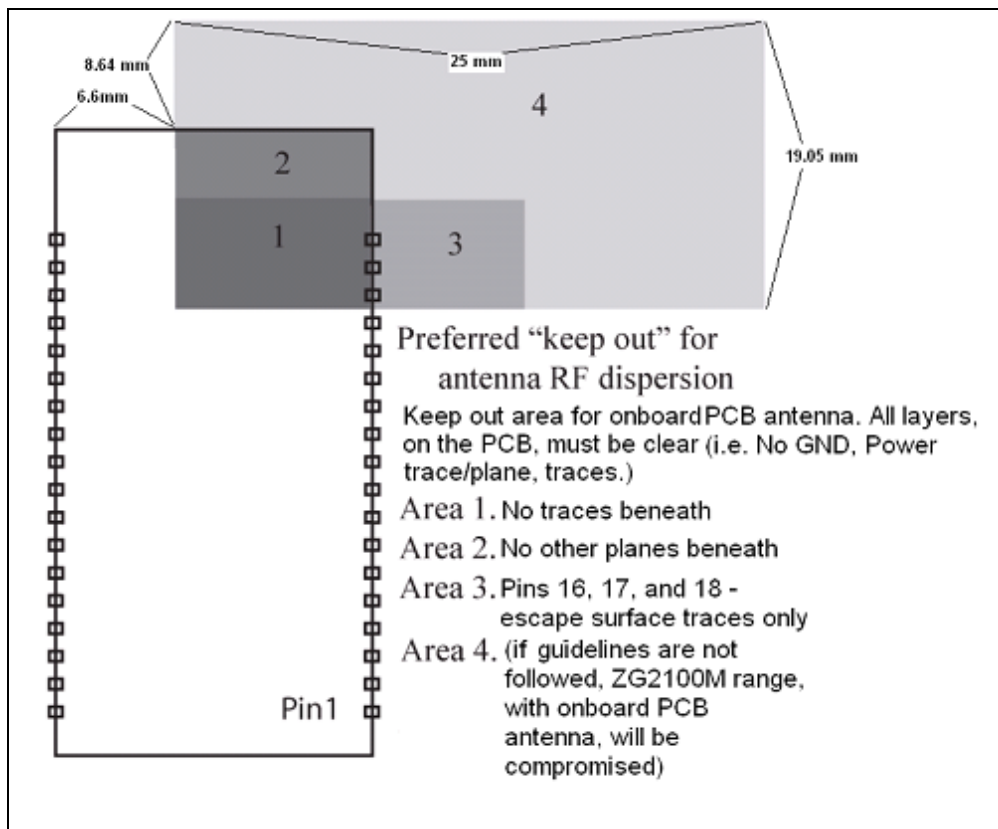

Figure 13: ZG2100M “Keep Out” Areas.
In addition to the guidelines in Figure 13, note the following suggestions:
- Keep Plastic enclosure 1cm min height above the ZG2100M PCB antenna while maintaining the keep-out area, as shown in Figure 13.